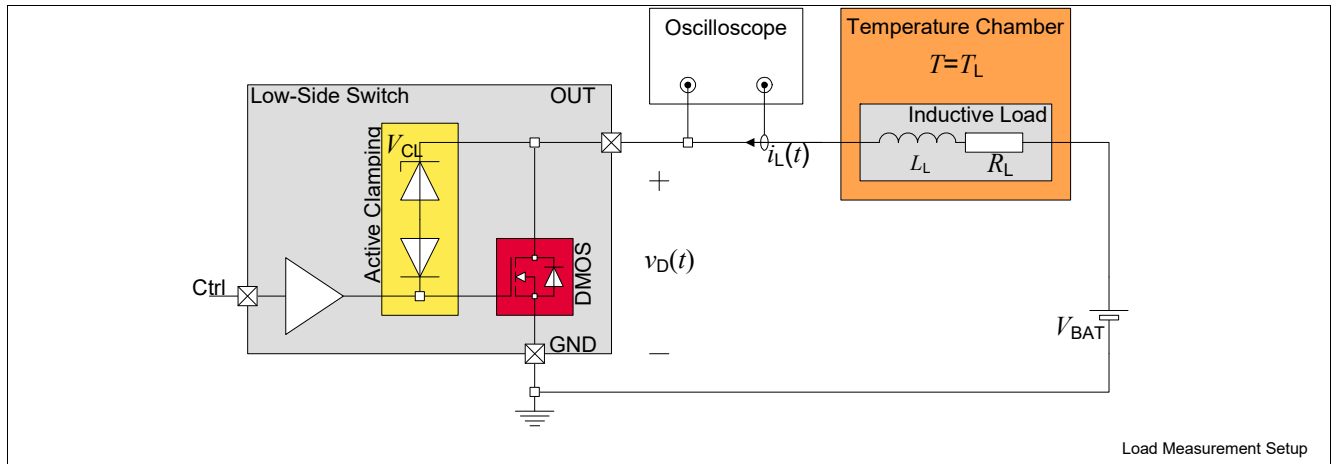
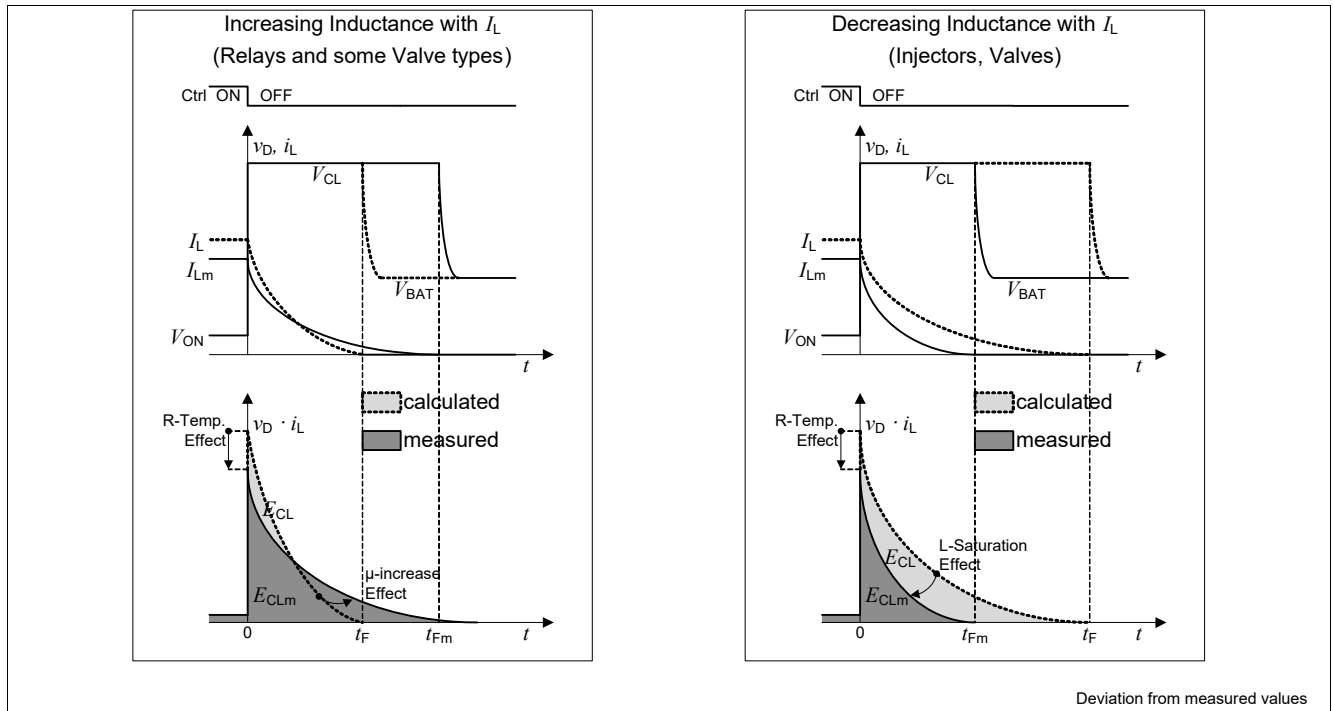

Figure 9  $E_{CL}$  measurement setup
Figure 10 Deviation of calculation from measurement
**Attention:** *It is strongly recommended to measure the load Energy and Current under operating conditions, example of measurement setup is shown in **Figure 9**. Load small-signal parameters might not reflect the real load behavior under operating conditions, see **Figure 10**. For more details please refer to the Application Note “Switching Inductive Loads”.*